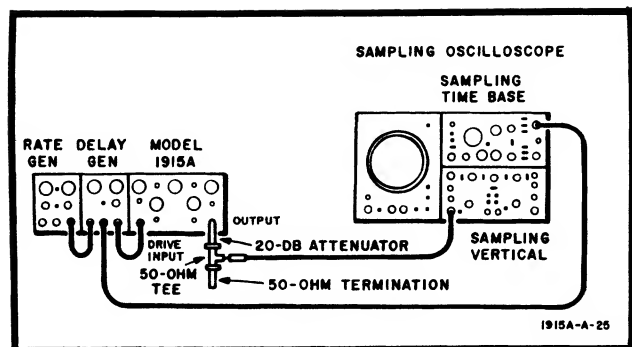

Figure 5-4. Sampling Oscilloscope Test Setup
- Connect equipment as shown in Figure 5-4.